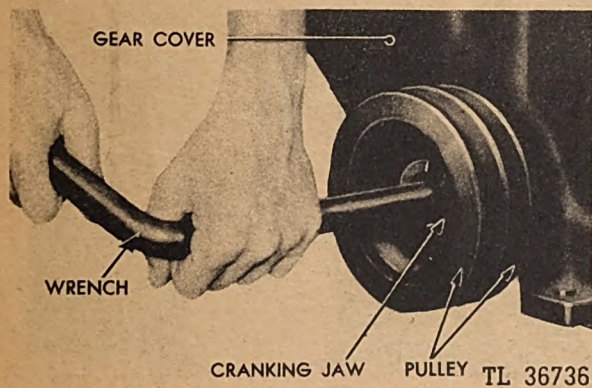

Fig. 84. Removing Crankshaft Pulley Nut Jaw
c. *Removing Crankshaft Pulley.* With a wrench shaped as shown in Figure 84, unscrew the crankshaft pulley nut. (The end of the wrench that fits into the nut must be similar to the same end of the rope starter shaft.)